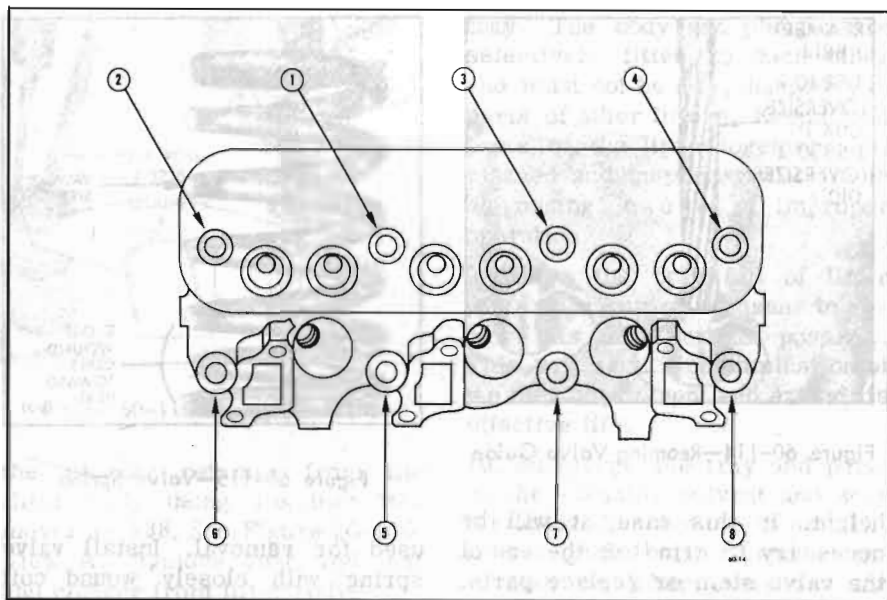

Figure 60-110—Cylinder Head Bolt Tightening Sequence
5. Install head bolts. Tighten the bolts a little at a time about three times around in the sequence shown in Figure 60-110. Give bolts a final torque in the same sequence. Torque to 65-80 lb. ft.